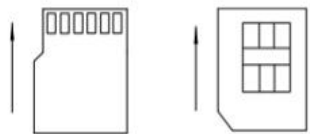

Figure 4-6: How to Insert a TF Card and a SIM Card
(6) TF card slot: The device supports TF card storage expansion, with a maximum capacity of 64 GB;
(7) SIM Card Slot: The instrument supports SIM cards from all three major networks; once a SIM card is installed, remote data transmission is enabled;
(8) The insertion methods for the TF card and SIM card are shown in Figure 4-6 below; in both cases, the gold contacts should face upward.